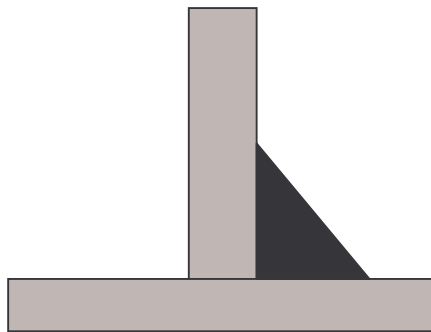

FIGURE 1.6
1.10 Identify the type of welding joint shown in FIGURE 1.6.